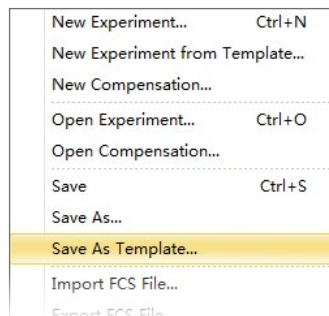

Figure 23. File submenu showing the save as template command.
9. Select "File" → "Save as template..." to generate an Experiment template for Routine use, e.g. "DuraClone* xxx", replacing xxx by the name of the panel, e.g. "IM T Cell" (Figure 23).